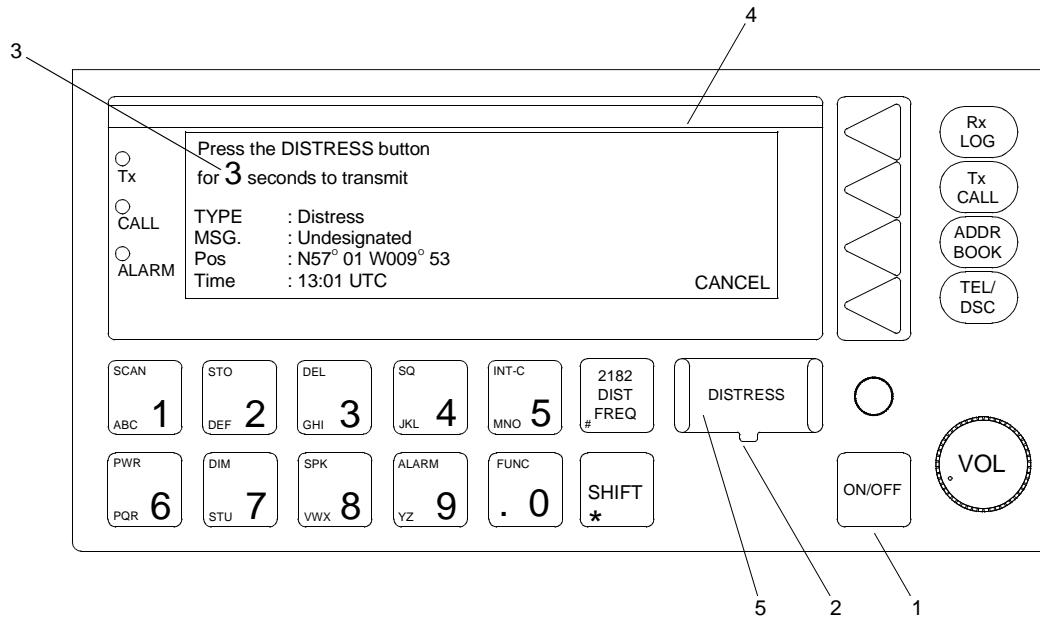
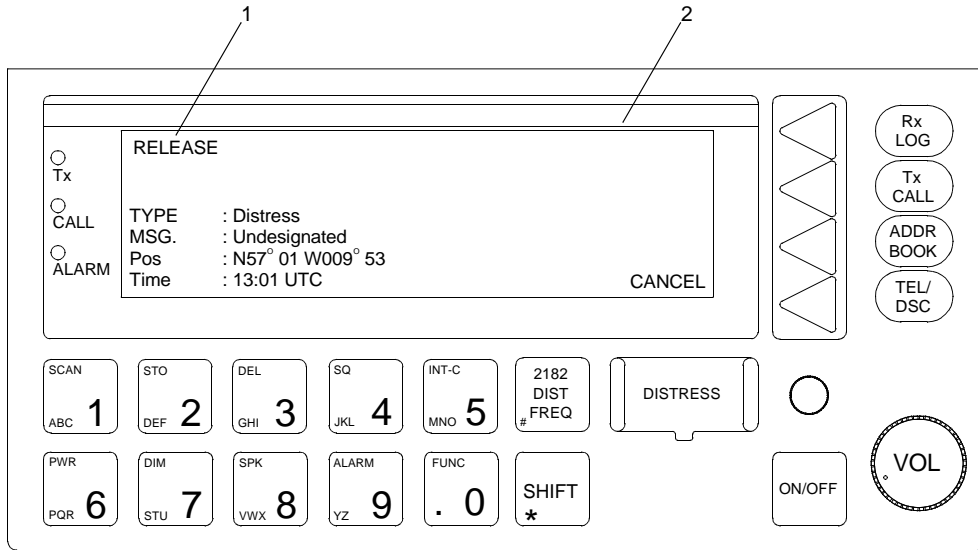

Figure 1. MF/HF Control Unit
Figure 2. Release Distress Button Message
1. Press the ON/OFF button (figure 1, item 1) while the MF/HF control unit is off or in the standby mode.
2. Open the DISTRESS button cover (figure 1, item 2).
A countdown indicator (figure 1, item 3) appears in the LCD display (figure 1, item 4) indicating the number of seconds remaining to press the DISTRESS button (figure 1, item 5). The control unit also prompts the user when to release the DISTRESS button (figure 1, item 5) to transmit the distress call.
3. Press the DISTRESS button (figure 1, item 5) for 3 seconds or wait for RELEASE (figure 2, item 1) to appear in the LCD display (figure 2, item 2).